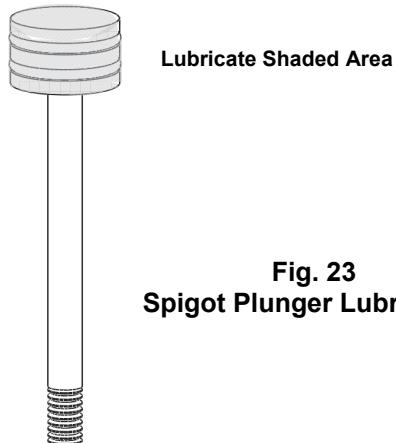

Fig. 23
- Install the two o-rings on the spigot plunger by rolling them onto the plunger. Seat the o-rings in the grooves. Be certain that they are not twisted. Smooth the lubricant into the grooves and over the sides of the plunger assembly (Fig. 23).